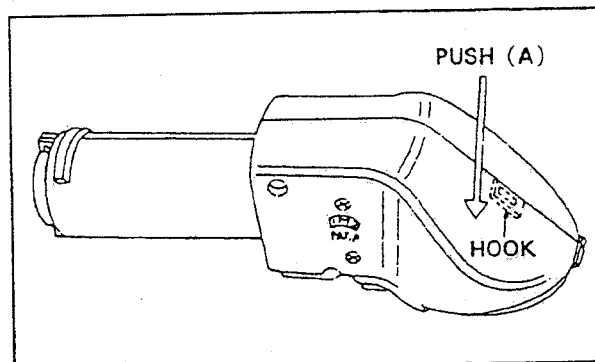
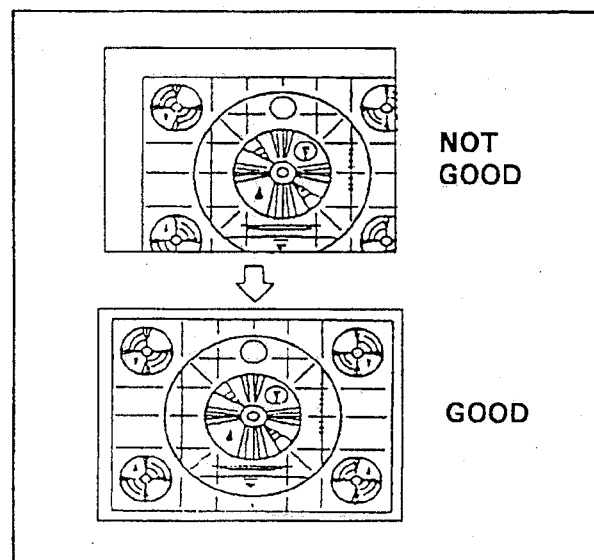

Figure F4
Figure F8.
- 7) Push the portion A as shown in Figure F4 so that the CRT case can be removed.
2. Rotate the two centering magnets as shown in Figure F4 to center the picture both vertically horizontally as shown in Figure F8.